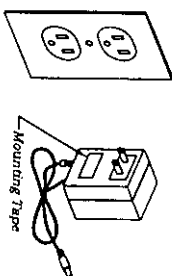

Figure 4-2
- REMOVE adhesive backing from mounting tape on transformer, and plug in the transformer. (Figure 4-2)